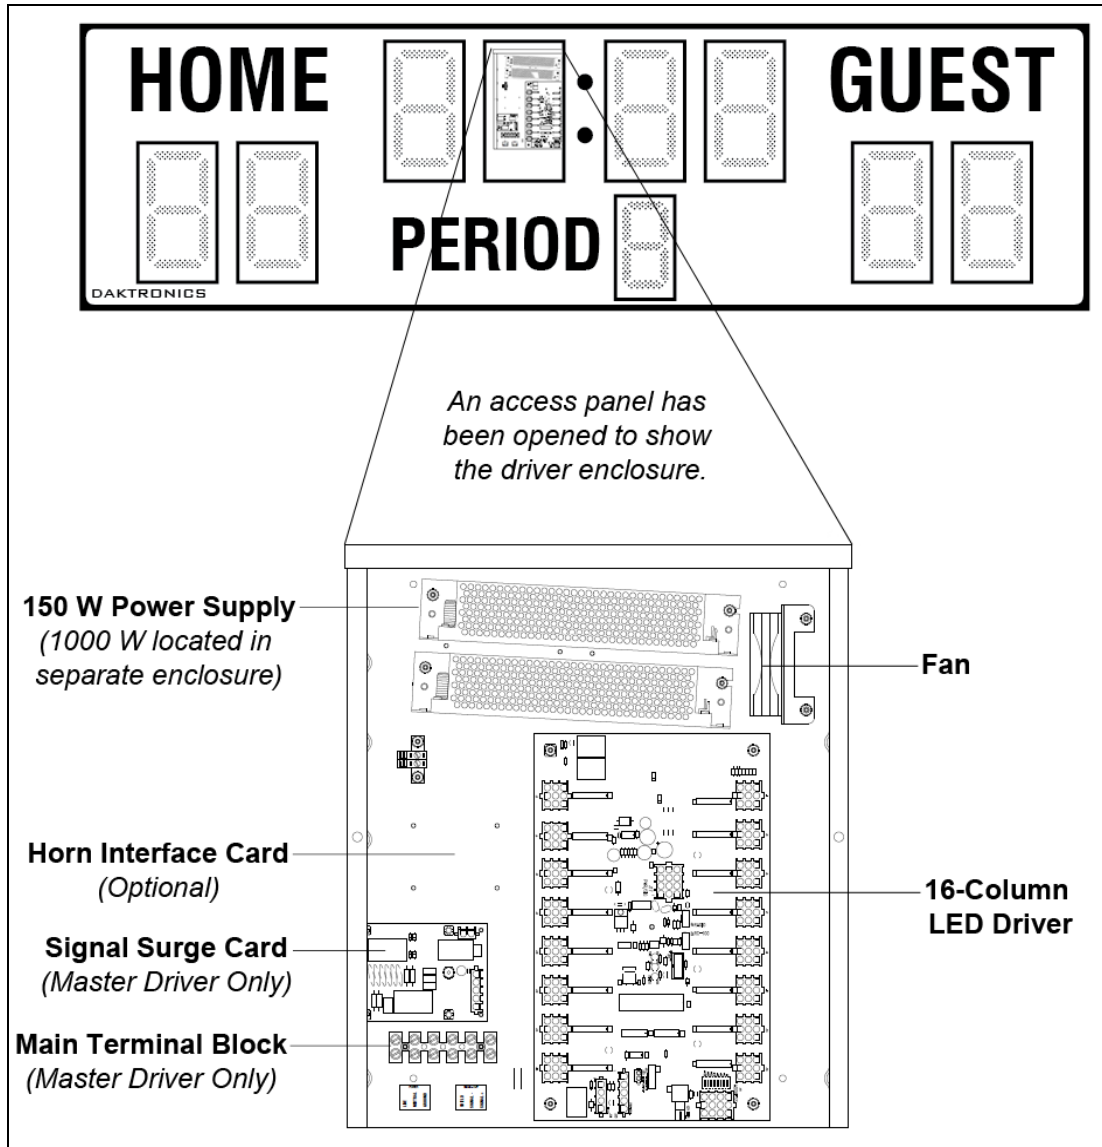

Figure 9: Driver Enclosure Components (Cover Removed)
The LED drivers perform the task of switching digits on and off within the scoreboard. LED drivers are located inside of a driver enclosure. Refer to **Figure 9** to view the location and components of a driver enclosure.
4. Locate the power supply (**Figure 9**) and disconnect all wires connected to it.